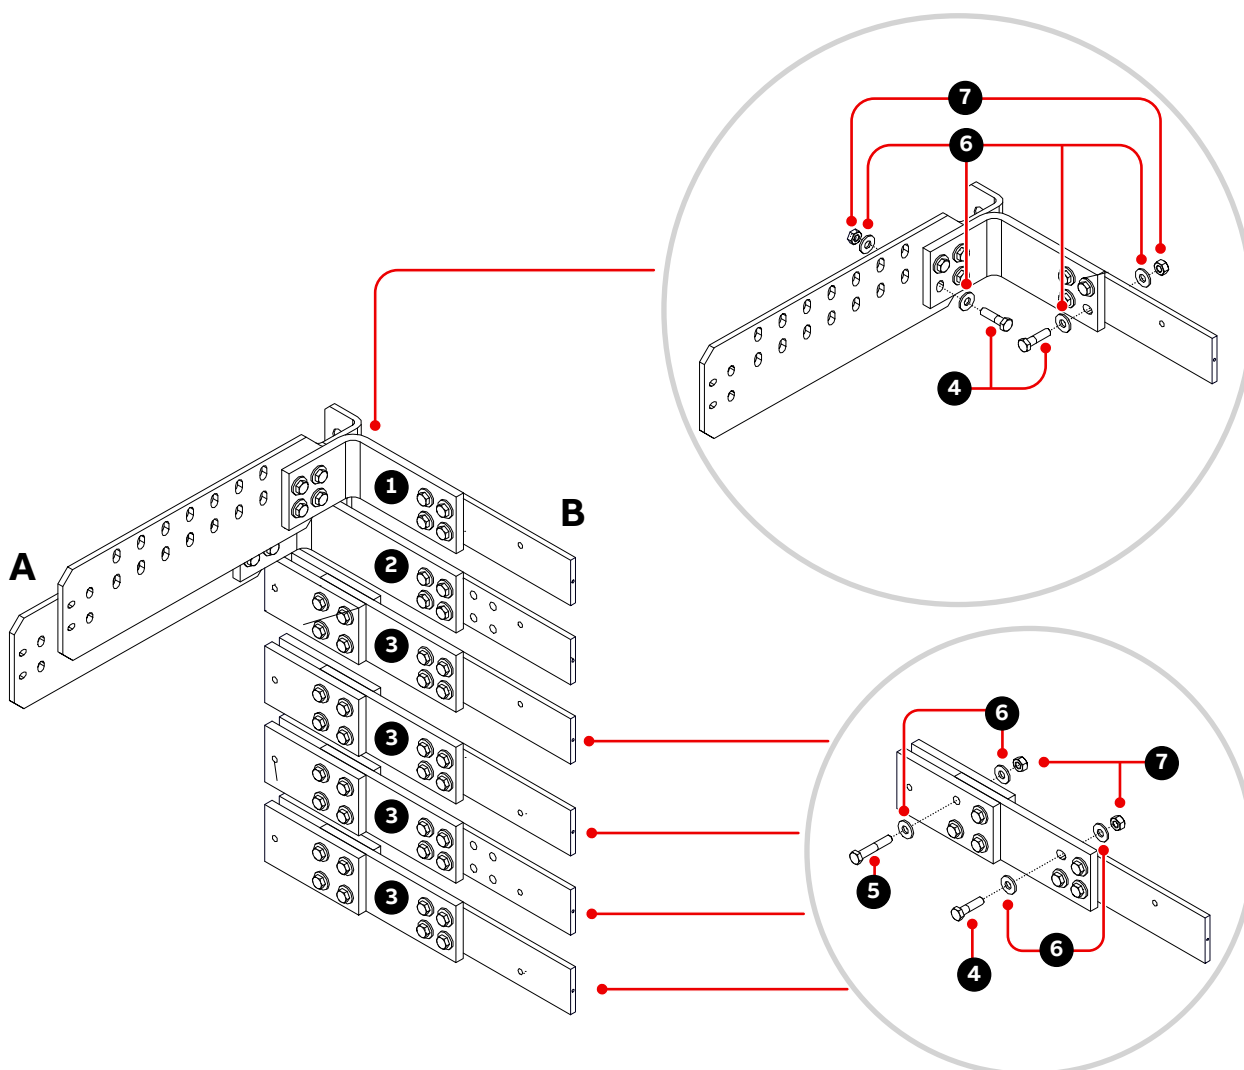

Figure 5–8 AC busbar joints between the COU/TEU and LSU (14 MVA).
The busbar configuration shown in Fig. 5–8 is for a TEU (A) connected to the left side of an LSU (B). For a TEU connected to the right side of an LSU, the busbar configuration is the mirror image of this figure.